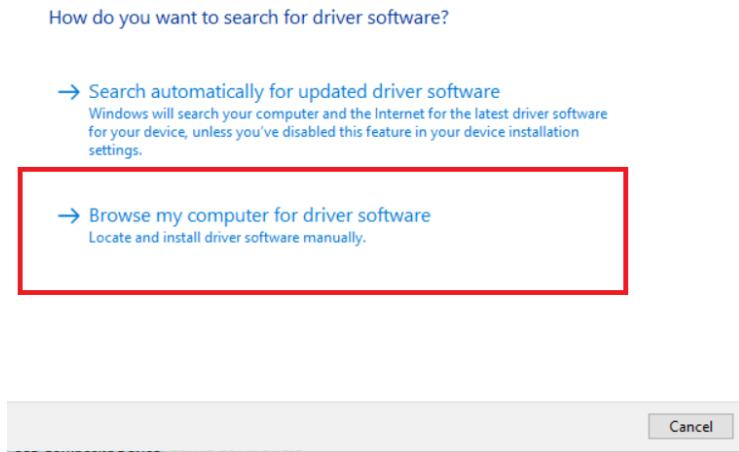

Figure 40: Selecting to Browse for Driver Software Directory
6. Choose to browse your computer for driver software. See Figure 40